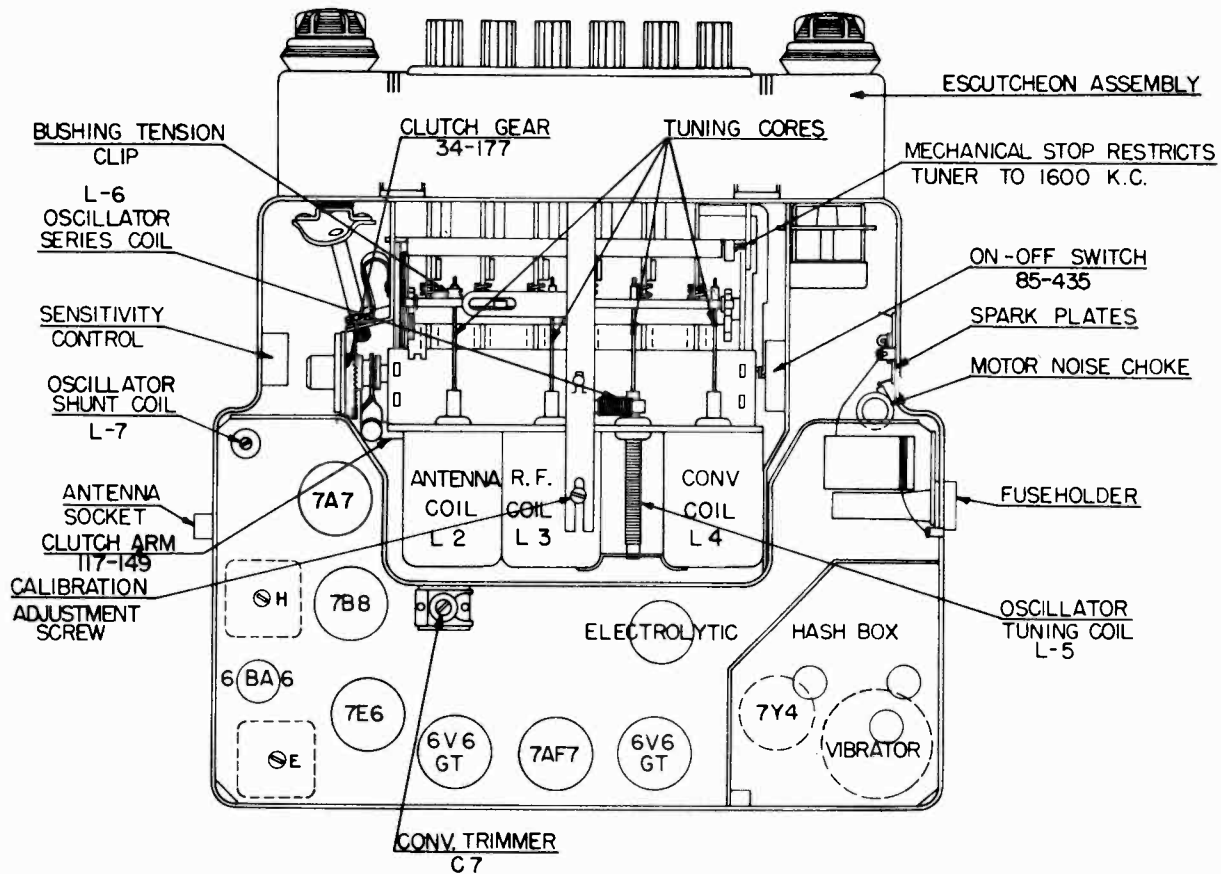
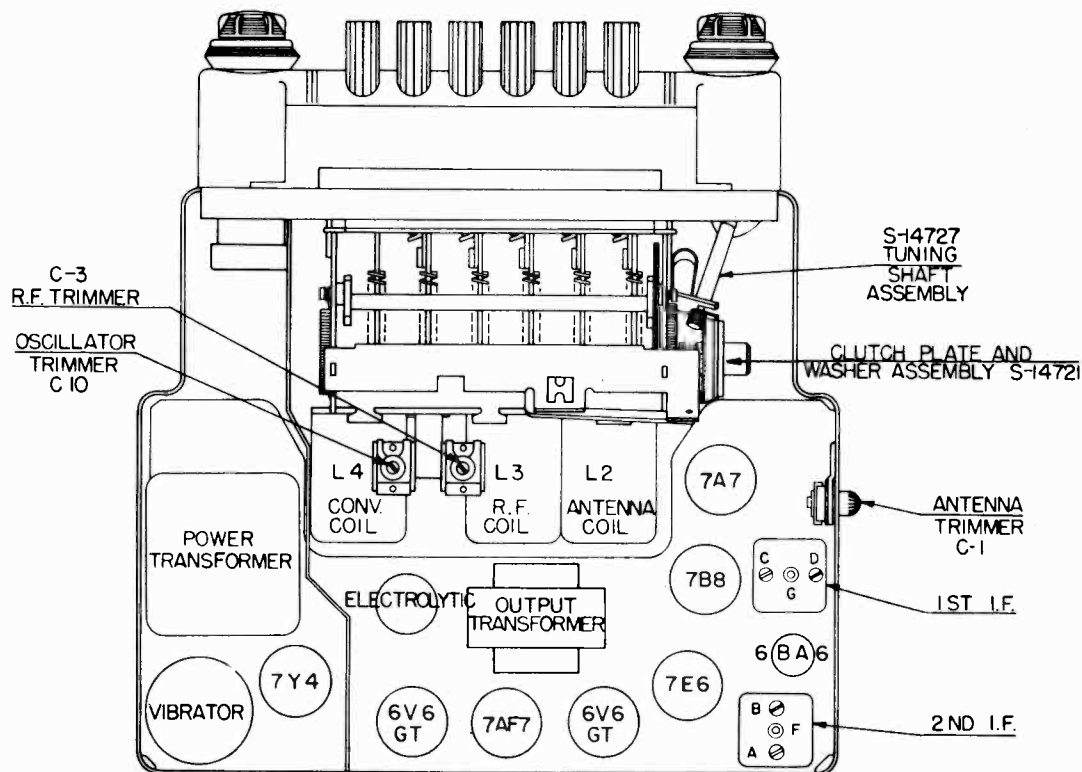

Fig. 7. Top View of Chassis
Fig. 8. Bottom View of Chassis
4. Adjust I.F. trimmers A, B, C, and D in order named for maximum output. (Fig. 8.) Some units have I.F. transformers that are slug tuned. In this case adjust I.F. slugs E, F, G, and H in order named. Repeat the operation to assure accurate alignment. (Figs. 7 and 8.)
4. Adjust oscillator trimmer C-10 (Fig. 8), for maximum response.
7. Adjust converter trimmer C-7, R.F. trimmer C3 and antenna trimmer C-1 (Fig. 8) for maximum response (Figs. 7 and 8).
8. If dial calibration is off after making above adjustments, a correction can be made by tuning eccentric screw at fulcrum of dial pointer. (Fig. 7.)
5. Adjust the oscillator trimmer C-10 (Fig. 8) at 1675 Kc.
6. Adjust the converter trimmer C-7, R.F. trimmer C3, and antenna trimmer C-1 (Figs. 7 and 8) for maximum output reading.
9. Adjust the oscillator core L-5 (Fig. 7) to scale at 1300 Kc.
10. Adjust the antenna core L-2, R.F. core L3, and converter core L-4 (Fig. 7) for maximum output reading.
12. "Rock in" shunt oscillator coil L-7 (Fig. 7) for maximum output reading. This should be done only as a last resort. This is the same as rocking in the padding condenser on a gang condenser receiver.